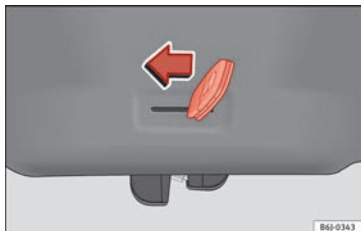

Fig. 7 Unlocking the rear lid manually.
- Insert the key in the groove and unlock the locking system, turning the key from right to left, as shown by the arrow »» Fig. 7.